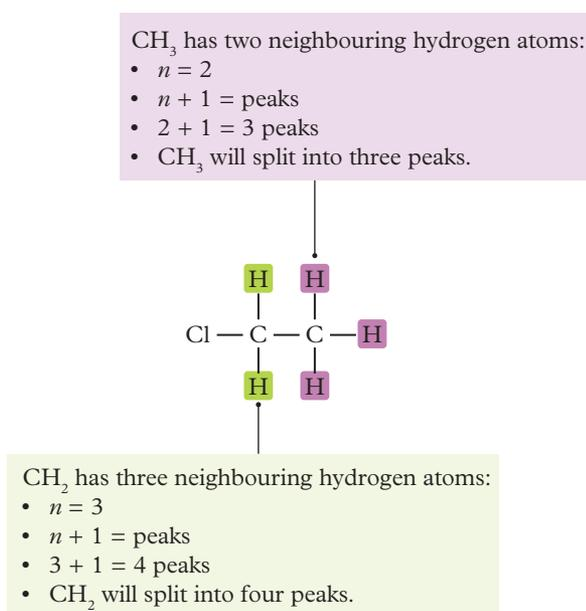

FIGURE 9 Fine peak splitting calculations for chloroethane
- Peak area: In this spectrum, the peak areas have been provided in brackets above the peaks. This is the ratio of hydrogen atoms. The (2) and (3) tell us that the ratio of hydrogen atoms in chloroethane is 2 : 3. In this case, the (2) and (3) correspond to the -CH₂ and -CH₃ groups, respectively.
- Peak splitting: The $-\text{CH}_3$ peak has been split into three finer peaks (a triplet), and the $-\text{CH}_2\text{Cl}$ has split into four fine peaks (a quartet). The calculations of finer peaks for both $-\text{CH}_3$ and $-\text{CH}_2\text{Cl}$ are shown in Figure 9.